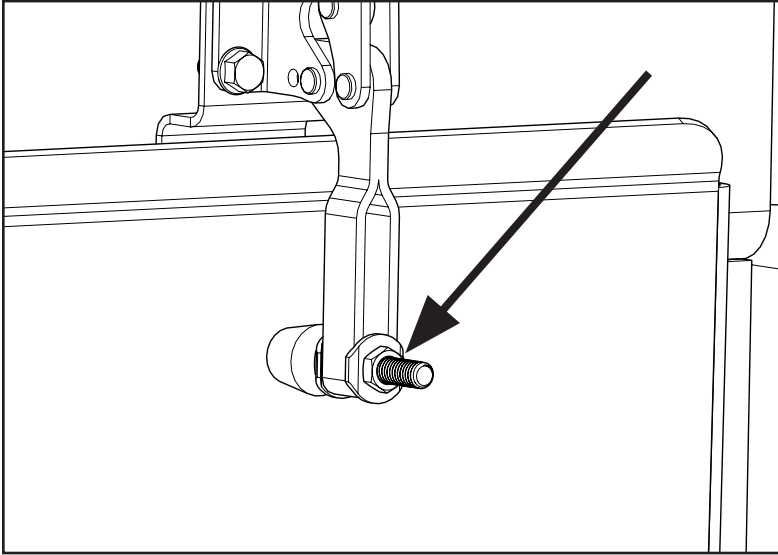

Figure 7
16. Adjust the cleanout door latch and clamping force using two 1/2" wrenches (Figure 7). The more clamping force, the tighter the door seals with these new bushings. The clamp should have a tight fit against the door.